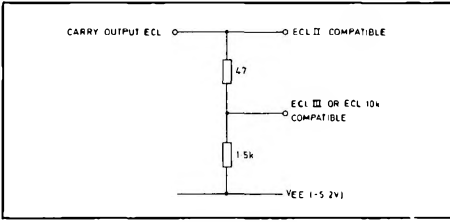

Fig. 3 ECL III/ECL 10000 interfacing
- 4 The ECL carry output is compatible with ECL II throughout the temperature range but can be made compatible with ECL III using the simple interface shown in Fig. 3.